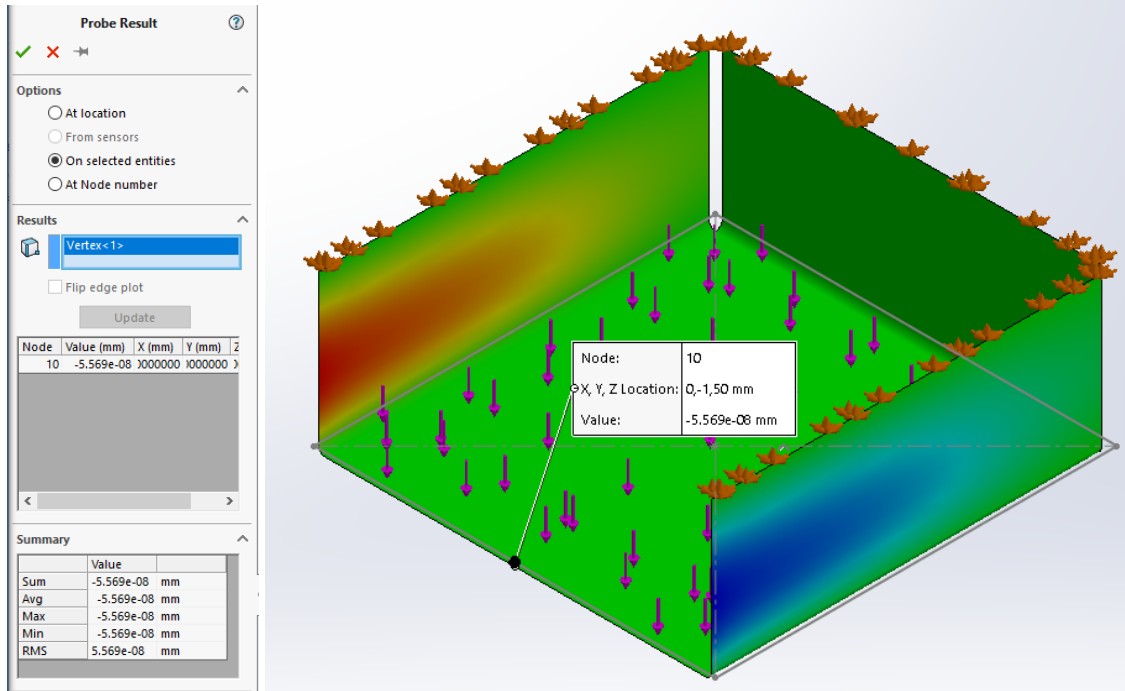

Figure 16
- Click *Plot Tools>Probe*. In the *Probe results* tab select *On selected entities* and click on the node indicated in Figure 16 and click *update* in the *Probe Results* tab. From here we find the X displacement at this point. In this case, in Figure 16, the X displacement at the selected point is  $-5.569e-08$  mm.
12. Take a similar screen shot of your model (as shown in Figure 16) and include it in your HW10 submission with a brief caption.